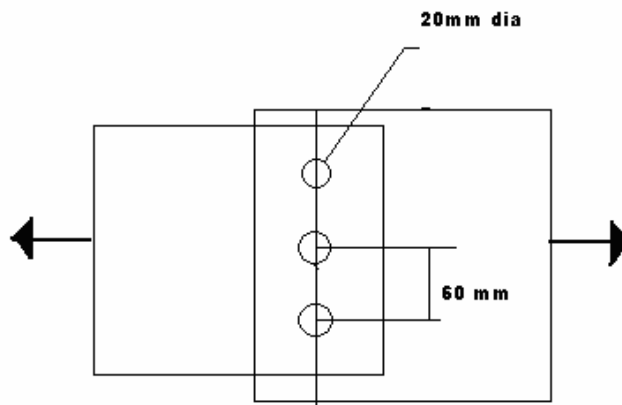

FIG NO.1
- (b) A single riveted lap joint is made in 15 mm thick plates with 20 mm. diameter rivets. Determine the strength of the joint, if the pitch of rivets is 60 mm. Take $\sigma_t = 120$ MPa; $\sigma_c = 160$ MPa and $\tau = 90$ MPa. As shown in FIG.NO.1 **07**